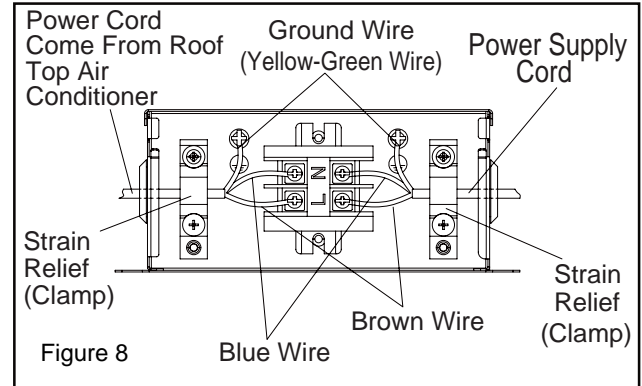

Figure 8
4. Connect the power cord to the brown, blue and ground wires found in the junction box with a terminal board. CAUTION Connect brown wire to brown wire, blue wire to blue wire and the ground wire to earth. (see Figure 8).